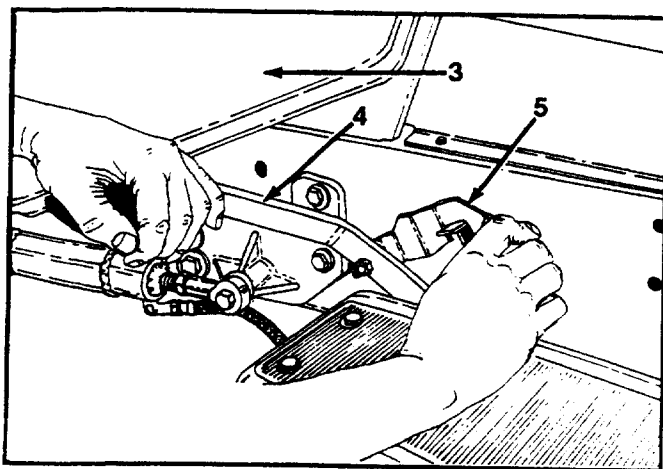

FIGURE 2.
4. Lock the brake pedal in the "down" position for ease of side panel removal. See figure 2. The exhaust manifold side panel must be "worked" out of position.